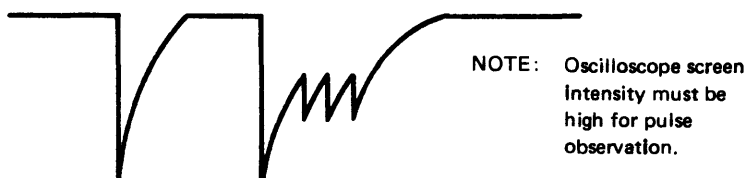

Figure 5-11. Isolated-Track Pulse at TP7
- f. With recorder still writing 1's, adjust one of skew adjust potentiometers to move its pulse slightly ahead of others (Figure 5-11). Now adjust each of other potentiometers to bring remaining tracks into alignment with isolated one.